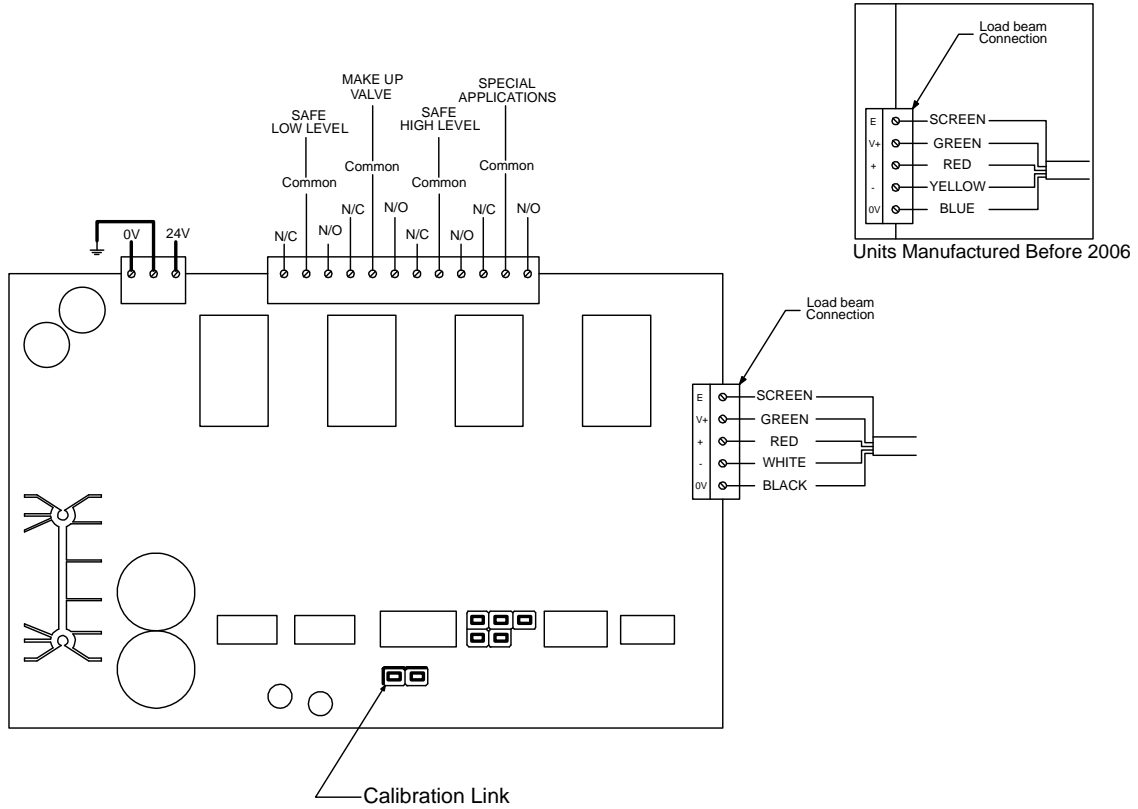

Fig.3
4. Make connection from the load beam foot to the Contents Indicator Controller (Fig 3, Separate *SAFE*s only)
17. The controller is self-calibrating. Backfill the *SAFE* with water. Set pumps to 'off'. Switch on panel with door open. Connect the calibration link to the two pins on the controller marked 'CALIB' (Fig. 3). Switch on one or both pumps and drain the *SAFE*. Remove the calibration link. The controller is now fully calibrated.